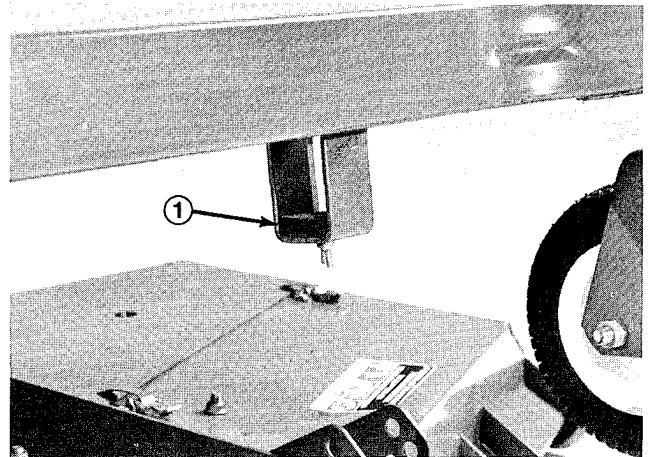

Figure 14
10. Check to make sure front height-of-cut pins are resting properly on frame cushions (Fig. 14). If pins are not resting properly, place a shim or shims under cushion to raise it for proper alignment.